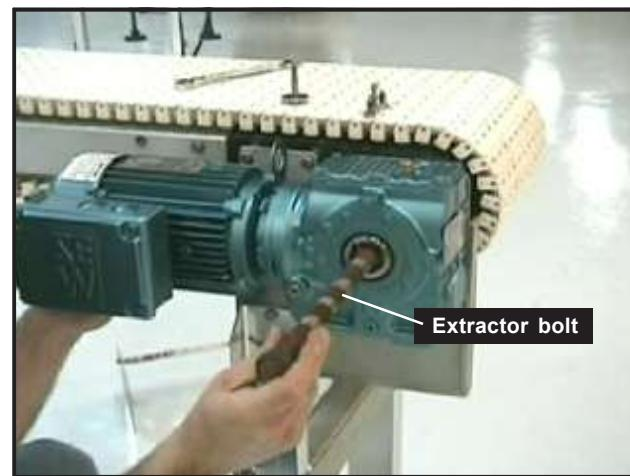

Figure 43: Insert extractor bolt to drive gearbox off shaft
- If the gearbox will not slide off, insert extractor bolt (see Table A, below) into the gearbox extractor, located at the end of the drive shaft (Figure 43).